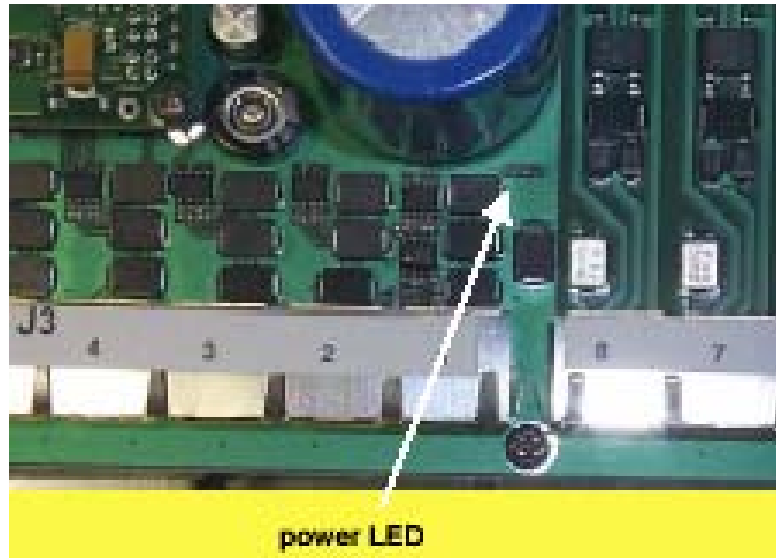

Figure 12: Port indicator LED on Ethernet switch
- the green LED on the circuit board, as shown in Figure 12.